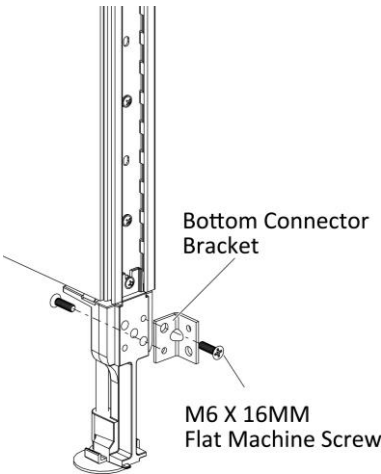

Figure 5
- Position the bottom corner bracket to the third panel and securely fasten it to the panel leg with two M6 X 16MM Flat Machine Screws, (Figure 5).